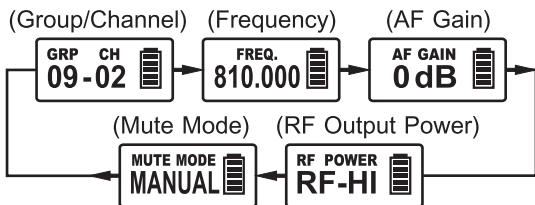

Fig. 5
2. Press the MODE button to access one of the 5 parameters below and press the SET button to activate parameters for changing, Fig. 5.